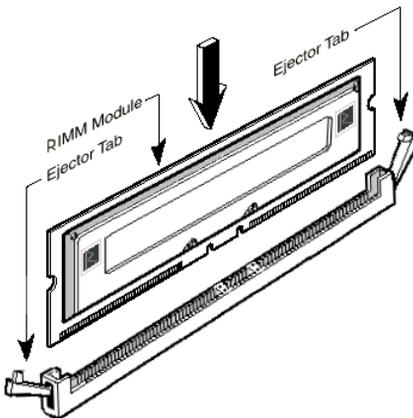

Figure 2-5 Memory module installation
Step 5. Insert the RIMM module into the expansion socket as shown in the illustration. Note how the module is keyed to the socket. You can refer to figure 2-5 for the details. This insures the RIMM module will be plugged into the socket in one way only. Firmly press the RIMM module into the RIMM socket, making certain the module is completely seated in the RIMM socket.